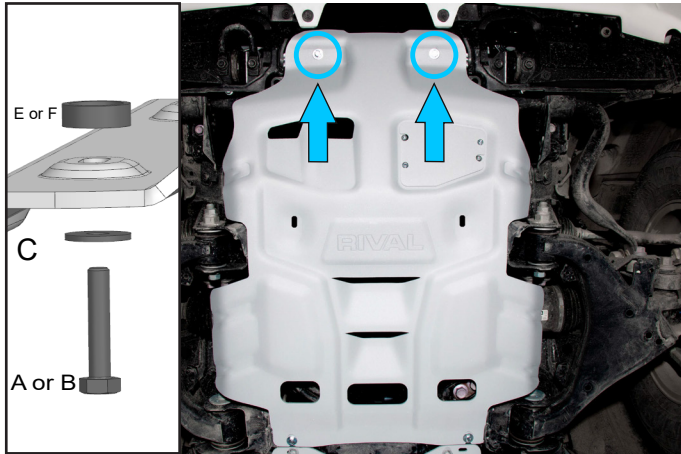

Fig. 4
4. Secure the front of the engine skid plate using M8x30 bolts, M8 washers and 6mm spacers (items A,C,E) as shown in fig.4.